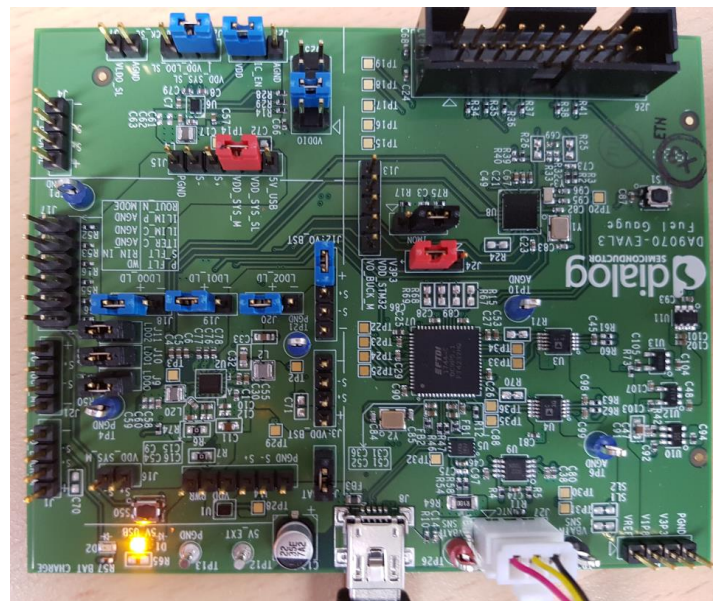
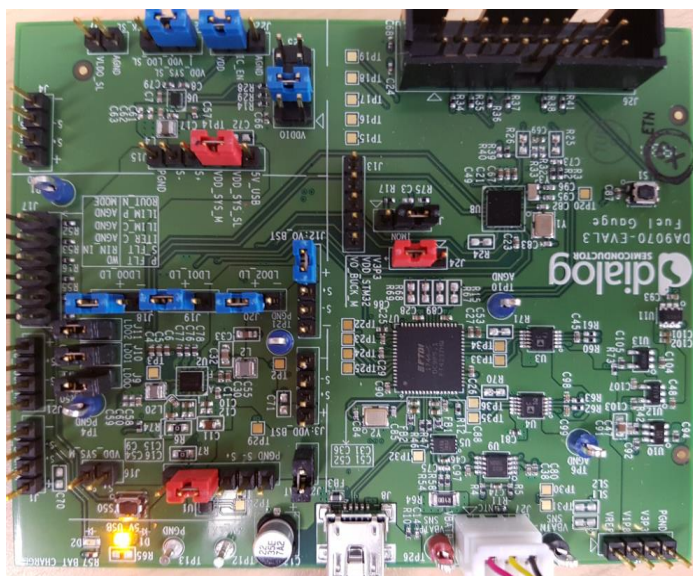

Figure 10: FG Board with Battery and USB Cable Connected
Figure 18: Jumper Configurations for Battery Profile and Performance Test
The prepared battery must be connected to J27 and then connect the USB cable to the PC. Figure 10 shows the board with battery and USB cable connected.
5. Connect the jumpers of **J2** again, see Figure 10.
1. Confirm the jumper configurations of the board, see Figure 10.
Figure 18 shows the jumper configurations required for battery profile on DA9070 FG demo board. A difference from Figure 10 is the connection of (2) and (3) of **J14**.
The jumper configurations are the same as for the battery profile, see Figure 18. Please confirm the default jumper configuration shown in table 1 and that J14 has (2)-(3) pin connection.